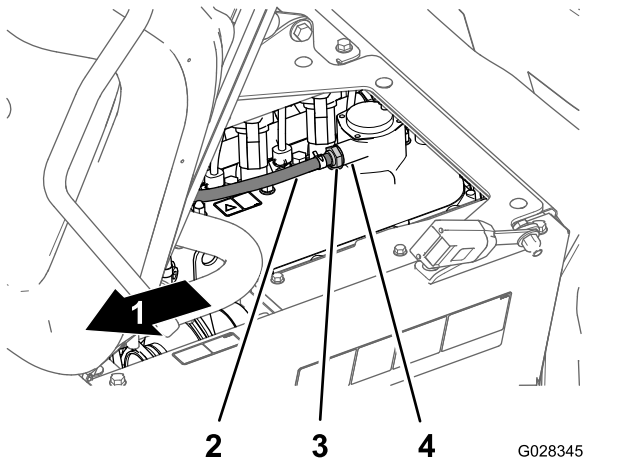

Figure 82
2. Remove the PCV valve from the fitting of the valve cover (Figure 82).
Note: If the internal restrictor of the valve rattles, the PCV valve is serviceable; if the internal restrictor is not free to rattle when shaken, replace the PCV valve (Figure 82).
4. Insert the PCV valve until it is fully seated in the seal for the valve-cover fitting (Figure 82).